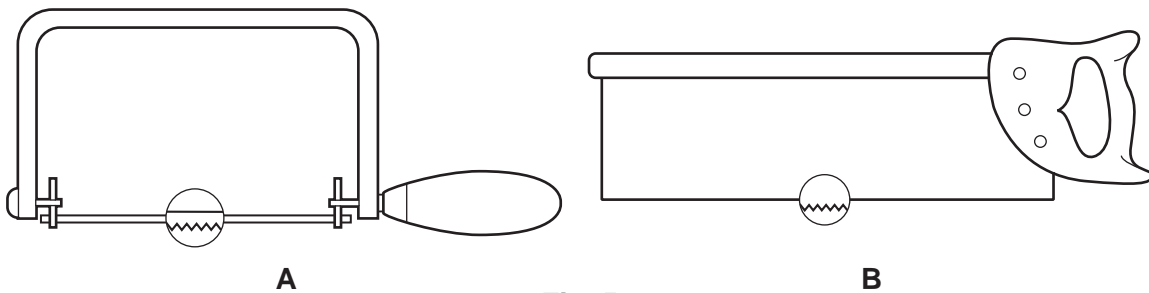

Fig. 5
- 6 Fig. 5 shows two saws used to cut wood.